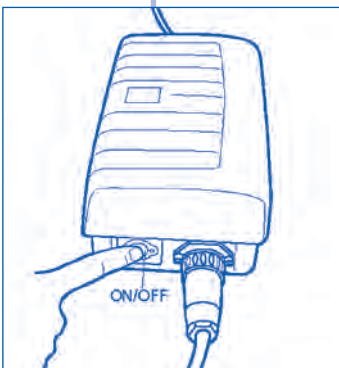

Figure 5
- In order to start-up your Vortex™1 cleaner, press the ON/OFF button (**Figure 5**). The green light shows and the cleaner starts-up after a few seconds.